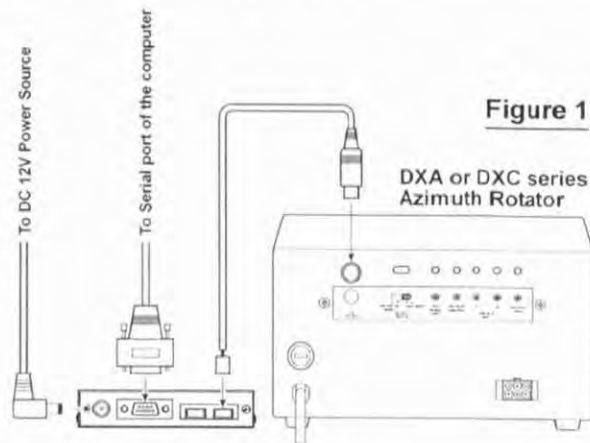

Figure 1
- ☐ Connect the supplied Control cable ("5-pin" ↔ "Mini-DIN") between the **EXT CONTROL** connector on the rotator's controller and **AZ** connector on the rear panel of the **GS-232B** (Figure 1).